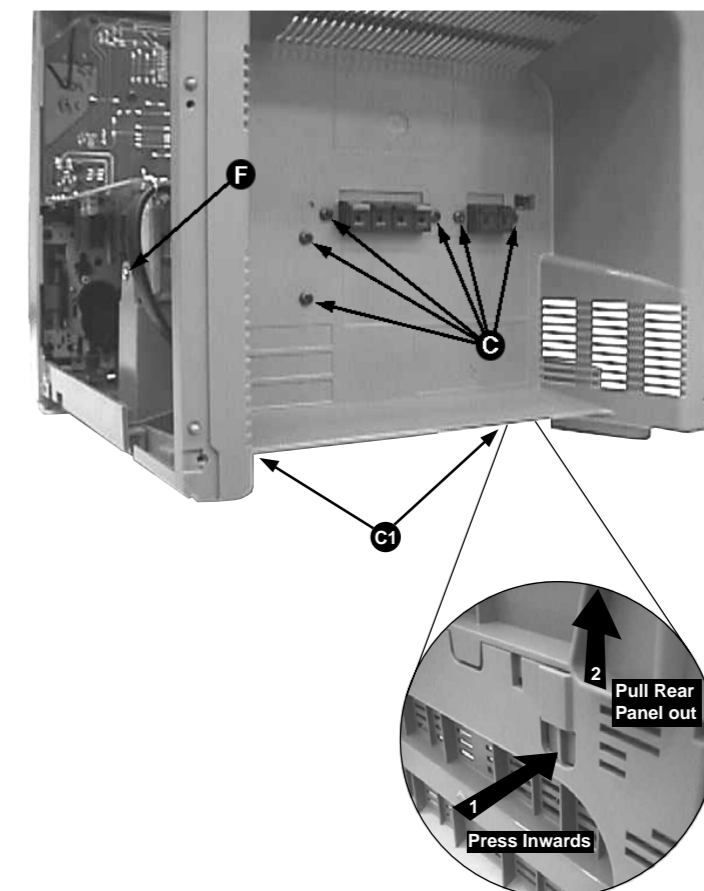

Figure 5
- 2) Remove 1 screw E supporting the bracket, Combi board (pos 33) to the Panel front (pos 8).
- 3) Remove 1 screw F (see figure 5) mounting the Mains transformer body to the Panel Bottom (pos 25).